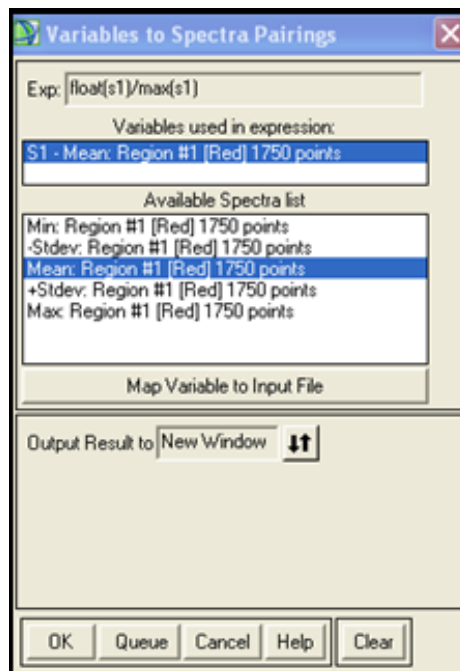

Figure 6.1d. Variable Assignment Window
- Assign the spectral curve labeled Mean: Region #1 to the expression by clicking on it in the Variables Used in Expression list (Figure 6.1d). Change the Output Result to New Window and click OK. The Correction Spectrum opens in the Spectral Math Result Window.